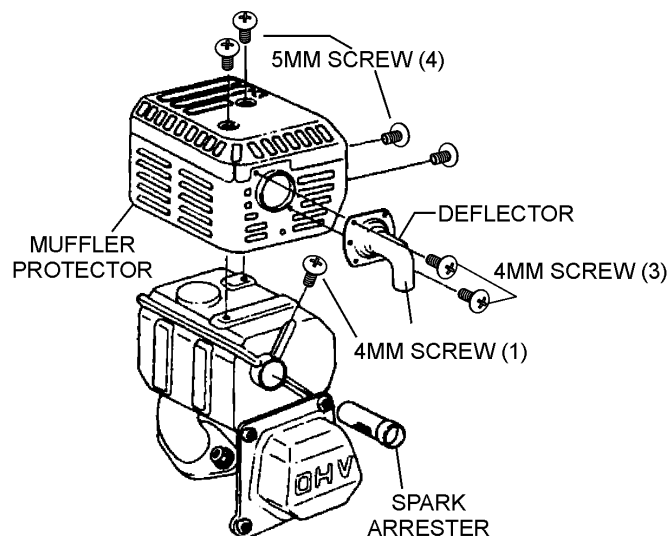

Figure 52. Spark Arrester Removal
1. Remove the 4 mm screw (3) from the exhaust deflector, then remove the deflector. See Figure 52
2. Remove the 5 mm screw (4) from the muffler protector, then remove the muffler protector.